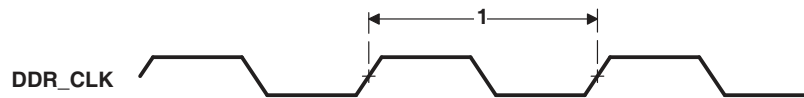

Figure 7-26. DDR2 Memory Controller Clock Timing
Table 7-32. Switching Characteristics Over Recommended Operating Conditions for DDR2 Memory Controller^{(1) (2)}(see Figure 7-26)